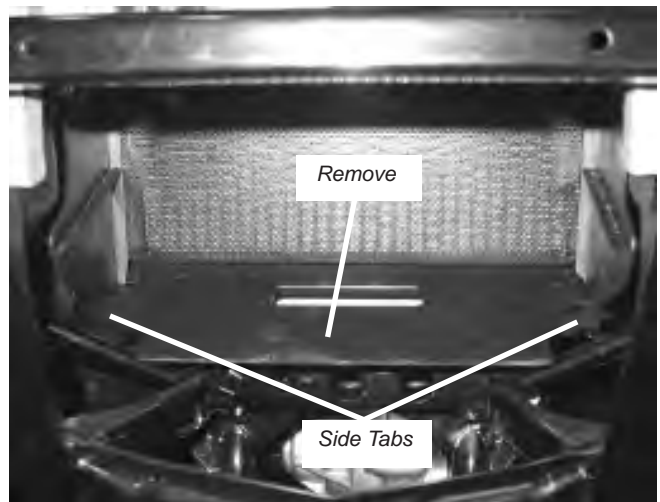

Figure 7 Remove Plastic Radiator Panel
- Depress the side tabs and remove the plastic radiator panel from the vehicle, figure 7. This panel will be reinstalled later.